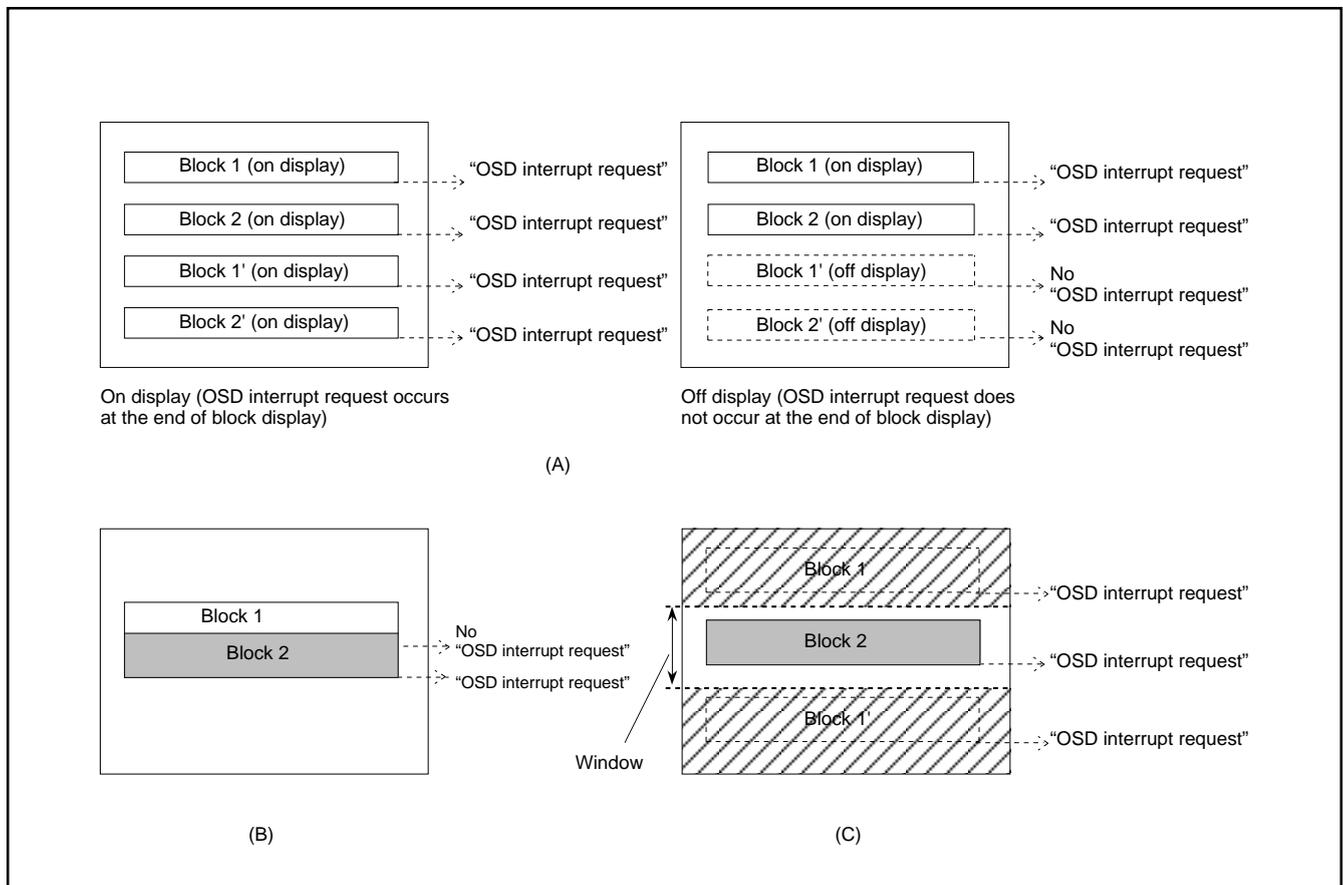

Fig. 8.10.26 Note on Occurrence of OSD Interrupt
- Notes 1:** An OSD interrupt does not occur at the end of display when the block is not displayed. In other words, if a block is set to off display by the display control bit of the block control register  $i$  (addresses 00F916 and 00FA16), an OSD interrupt request does not occur (refer to Figure 8.10.26 (A)).
- 2:** When another block display appears while one block is displayed, an OSD interrupt request occurs only once at the end of the another block display (refer to Figure 8.10.26 (B)).